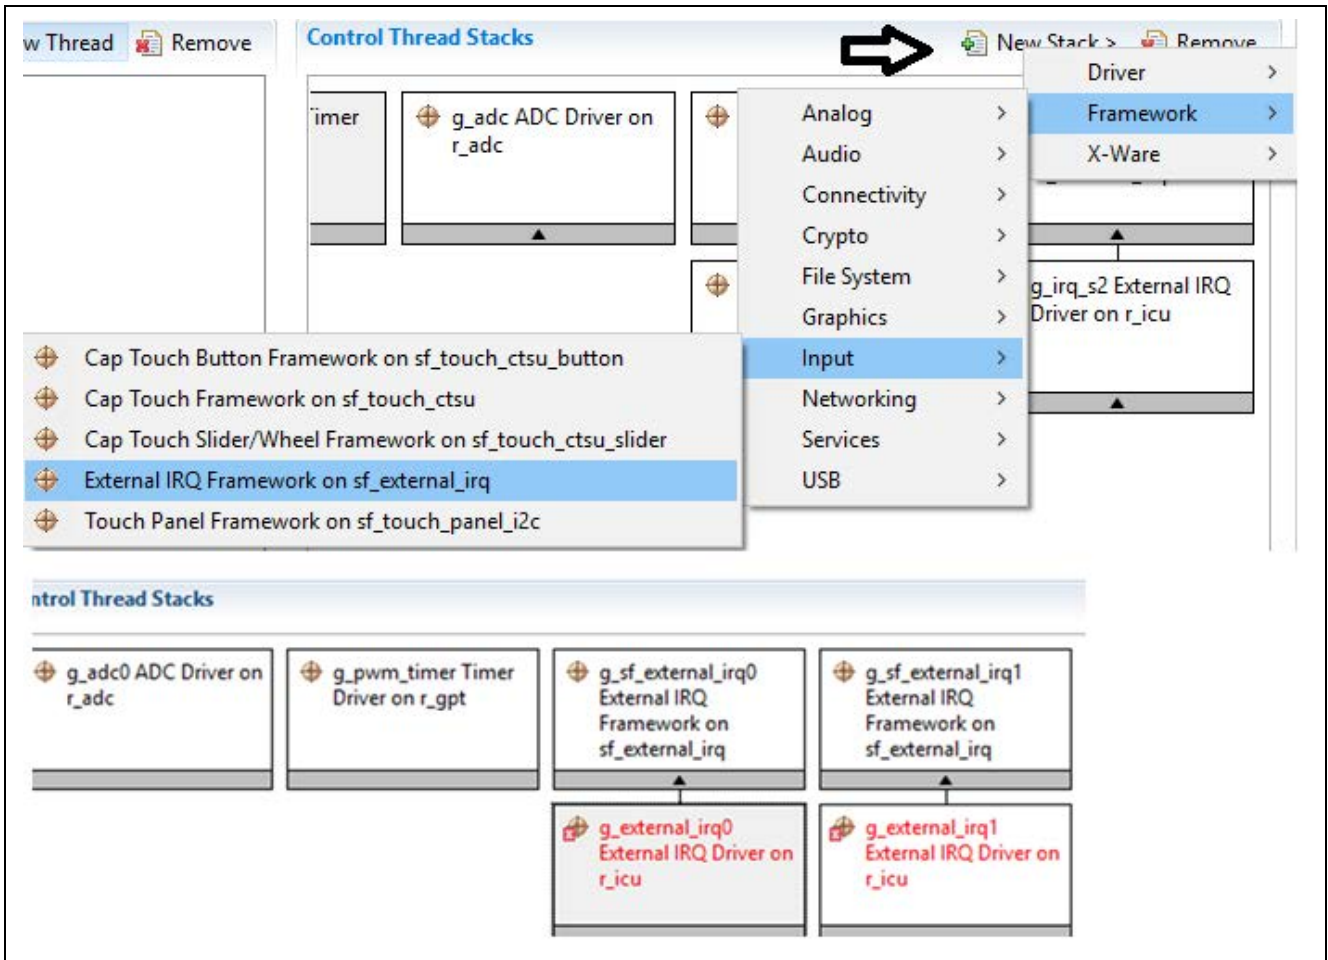

Figure 8 Adding IRQ Framework
- In the **Control Thread Stacks** window, click **New Stack** to add the **External IRQ** framework on `sf_external_irq` for user button S1 and S2, as shown in Figure 8.